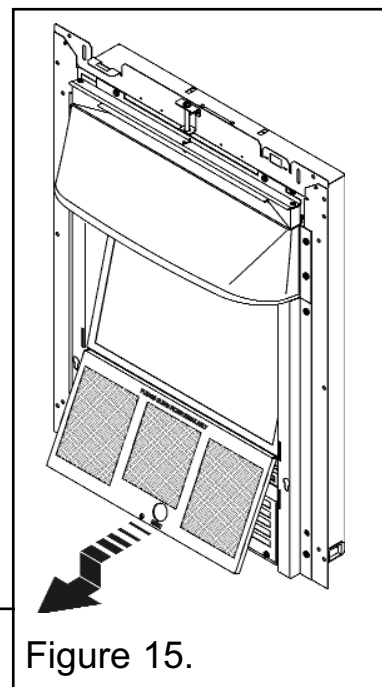
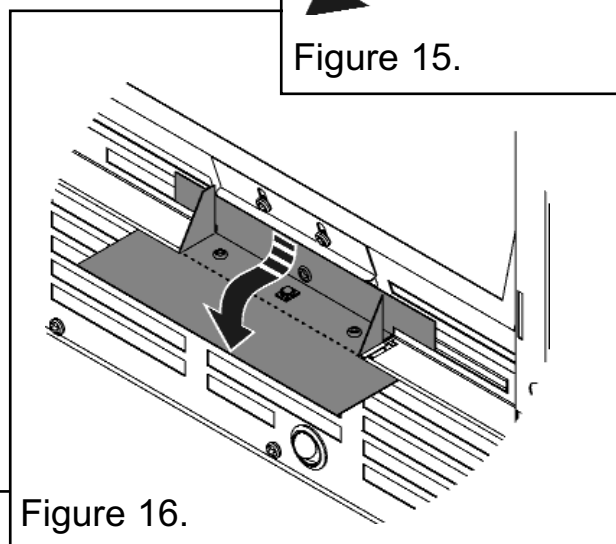

Figure 15.
Figure 16.
2. To gain access to the light shutter, unscrew and remove the thumbscrew from the bottom of the filter panel. Gently pull the base of the filter panel forward and down to remove it from the heater (See figure 15). There is a black card baffle in front of the light shutter; hold both sides and gently pull this forward to gain access to the light shutter (See figure 16).